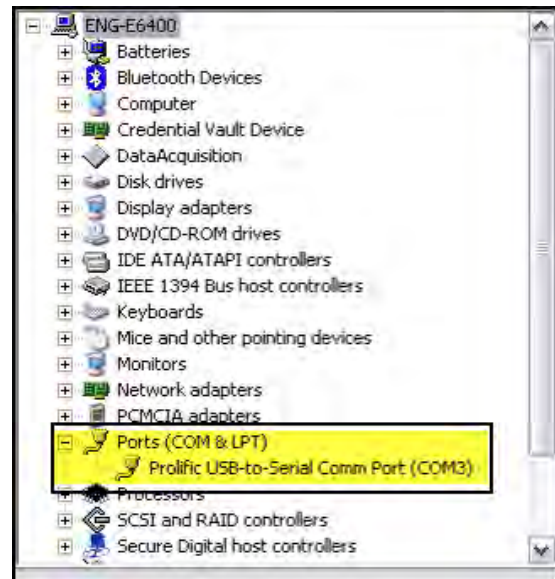

Figure 5
- Double click **Prolific USB-to-Serial Comm Port**. (Figure 5)